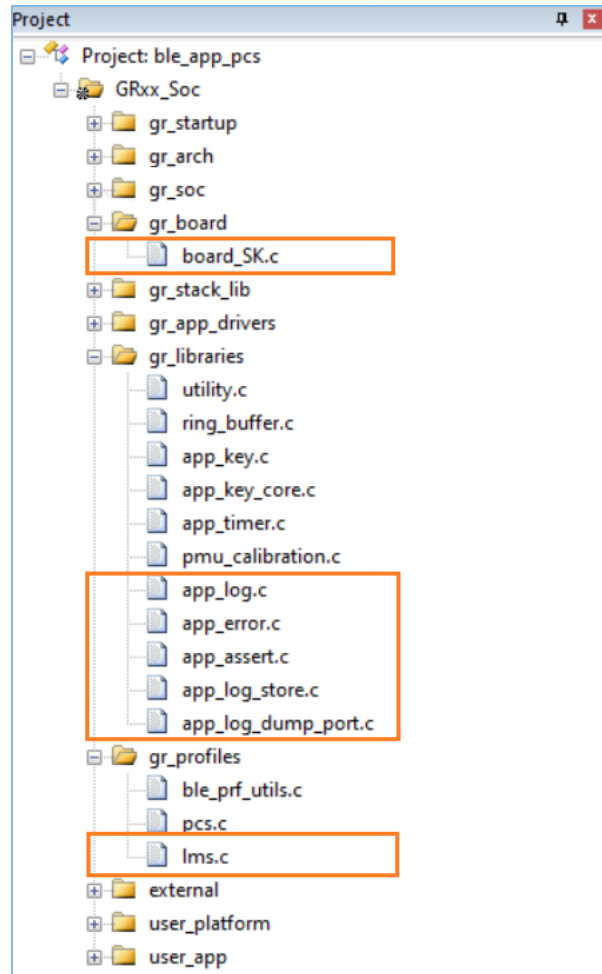

Figure 3-1 Adding source files into the project
- (1). Select and right-click **GRxx_Soc**, and then choose **Add Group** to add a directory named as "gr_board". Select and right-click **gr_board**, and then choose **Add Existing Files to Group 'gr_board'** to add the file in SDK_Folder\platform\boards\board_SK.c.
- (2). Select and right-click **gr_libraries**. Choose **Add Existing Files to Group 'gr_libraries'** to add *app_error.c*, *app_assert.c*, *app_log.c*, *app_log_store.c*, and *app_log_dump_port.c* to **gr_libraries**, as shown in Figure 3-1.